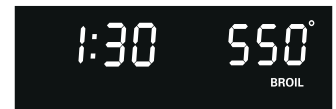
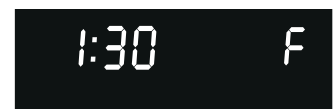

Figure 3
Figure 4
1. To tell if the display is set for Fahrenheit or Celsius press and hold the **Broil** pad. "BROIL", "550°" will appear in the display (See Fig. 3) and continue to HOLD for 7 seconds. A beep will then sound. If "F" appears, the display is set to show temperatures in Fahrenheit (Fig. 4). If "C" appears, the display is set to show temperatures in Celsius (Fig. 5).
2. Press **Clean** to switch between Fahrenheit or Celsius display modes. The display will show either "F" (Fig. 4) or "C" (Fig. 5).